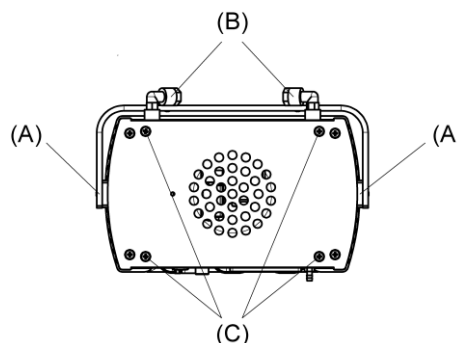

Fig. 8 Disassembly - lower surface casing
7.2.1.2 Assembly (see Fig. 8 - 11)